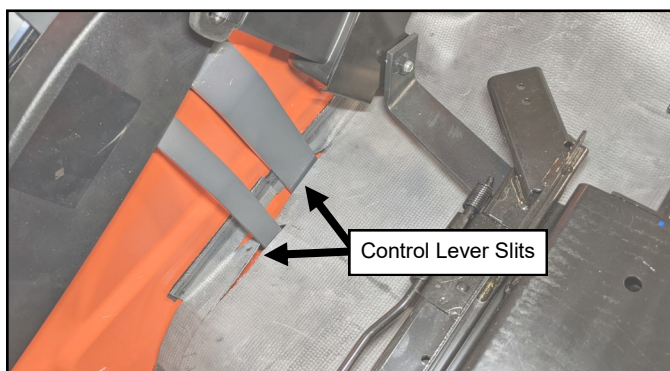

Fig. 19.6 (Position Right Side)
- 19.6 Work the filler down underneath the right side seat belt and around the right side control levers. See Figure 19.6. Do not stick Velcro yet.